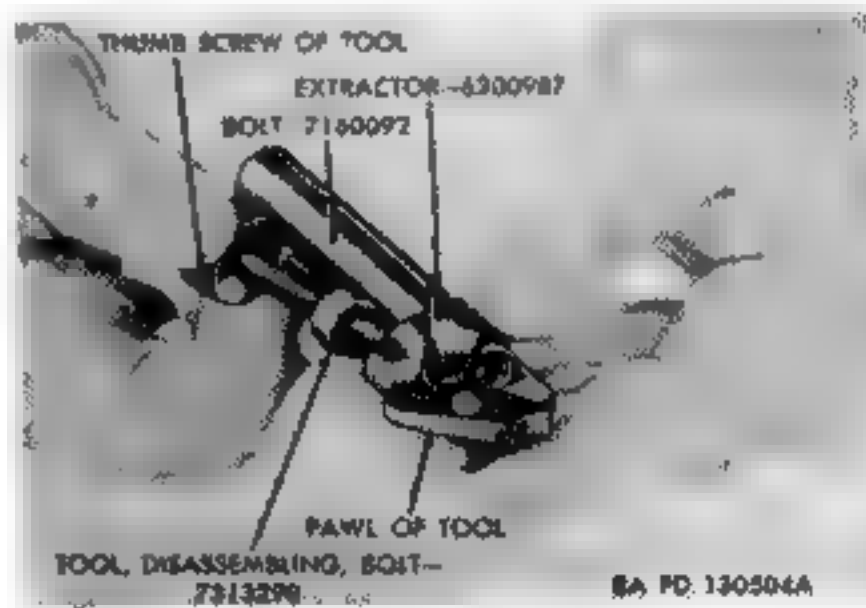

Figure 60. Disassembling bolt.
b. Assemble bolt disassembling tool 7313298 (Fig. 6) to the bolt (Fig. 60), with the unlotted tang of the tool pawl resting under the bevel of the extractor plunger. (Bolt disassembling tool 7313298 is supplied to organizational personnel and to ordnance field and depot maintenance personnel.) While pressing down on the unlotted tang of the tool pawl to make certain that it stays under the bevel of the extractor plunger, turn the thumb screw until the extractor plunger is depressed making it possible to remove the extractor by forcing it out through the hole in the tool.
c. Place bolt disassembling tool 7313298 on bolt (Fig. 60) so that slotted tang of its pawl rests on extractor plunger. (The bolt disassembling tool 7313298 is supplied to organization personnel and ordnance field and depot maintenance personnel.) Turn thumbscrew of tool until plunger is depressed; at the same time, the ejector is depressed into bolt by the tool.